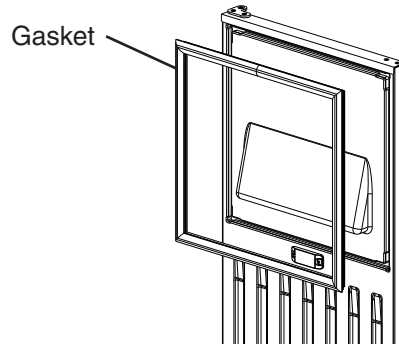

**Fig. 15**
- Remove hinge (C1) from the top right part of the door, flip it and reattach to the bottom left. Remove hinge (C2) from the bottom right part of the door, flip it and reattach to the top left. See Fig. 15. Proceed to step 7.